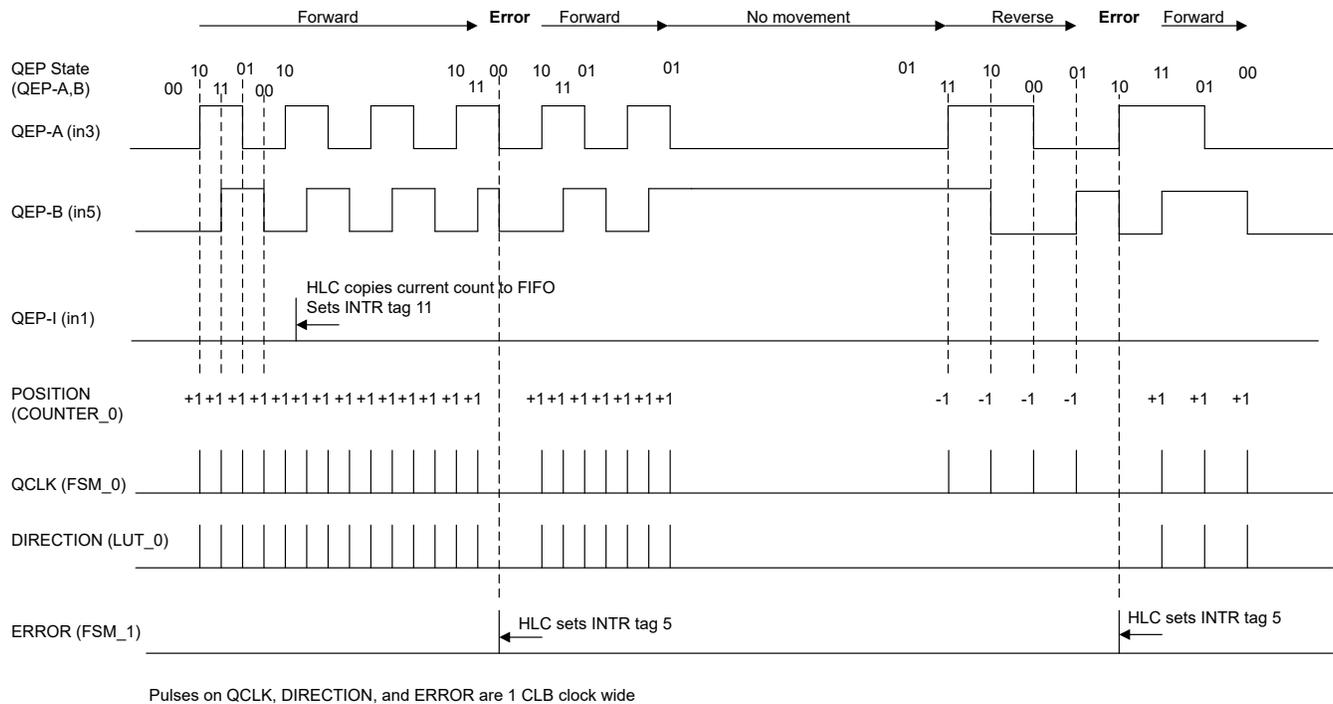

Figure 5-3. QepOnClib Waveform Example
A QEP decoder interprets a pulse train output from an incremental encoder. A basic QEP pulse train consists of the signals QEP-A, QEP-B, and QEP-I as shown in Figure 5-3. These signals have the following characteristics:
2. Draw a waveform to help visualize the desired interaction between CLB blocks. Figure 5-3 includes an example QEP waveform, CLB generated signals, and the corresponding CLB blocks used to implement the feature.